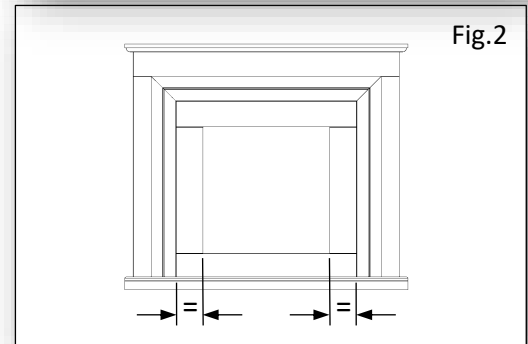

Fig.2
3. Position the Back Panel (H) centrally in the surround opening. Fig.2.